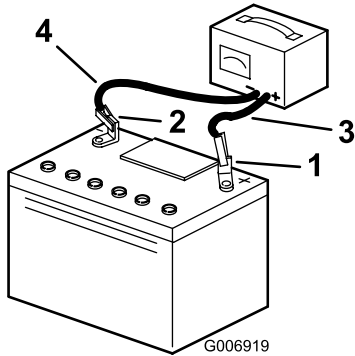

Figure 11
8. When the battery is fully charged, unplug the charger from the electrical outlet, then disconnect the charger leads from the battery posts (Figure 11).